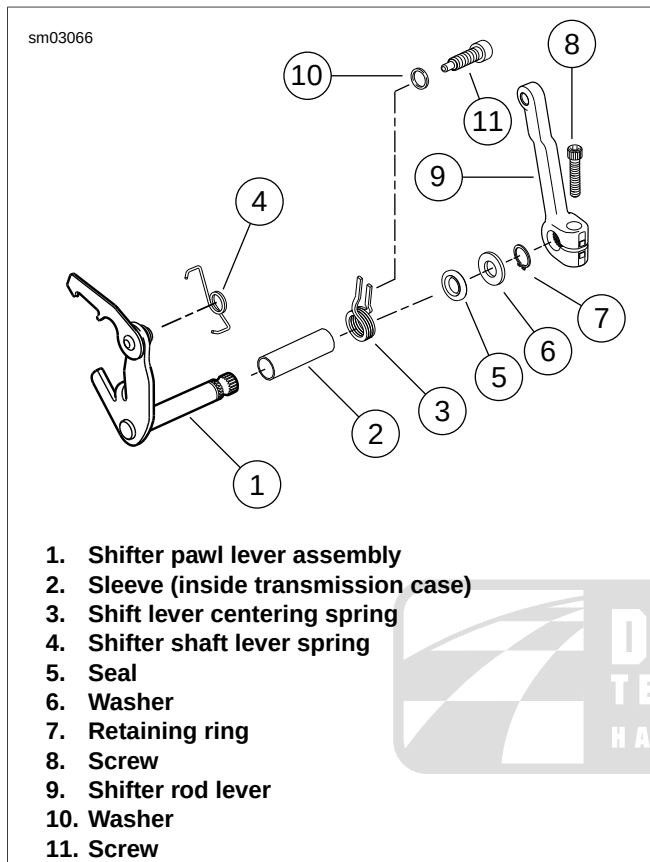

Figure 6-52. Shifter Arm Assembly
1. See Figure 6-52. After removing door assembly, remove screw (8) and shifter rod lever (9) from the shifter pawl lever assembly (1).
2. Remove retaining ring (7), washer (6) and seal (5). Discard retaining ring and seal. Pull shifter pawl lever assembly out of the transmission case.
3. Inspect sleeve (2) inside transmission case.
2. See Figure 6-52. Inspect the shifter pawl lever assembly (1) for wear. Replace assembly if pawl ends are damaged. Replace centering spring (3) if elongated.
3. Inspect the shifter spring (4). Replace if the spring fails to hold the pawl on the cam pins.
1. See Figure 6-52. Verify that sleeve (2) is inside transmission case.
7. See Figure 6-52. Install shifter rod lever (9) on the shifter pawl lever assembly shaft end using screw (8). Tighten to 18-22 ft-lbs (24.4-29.8 Nm).